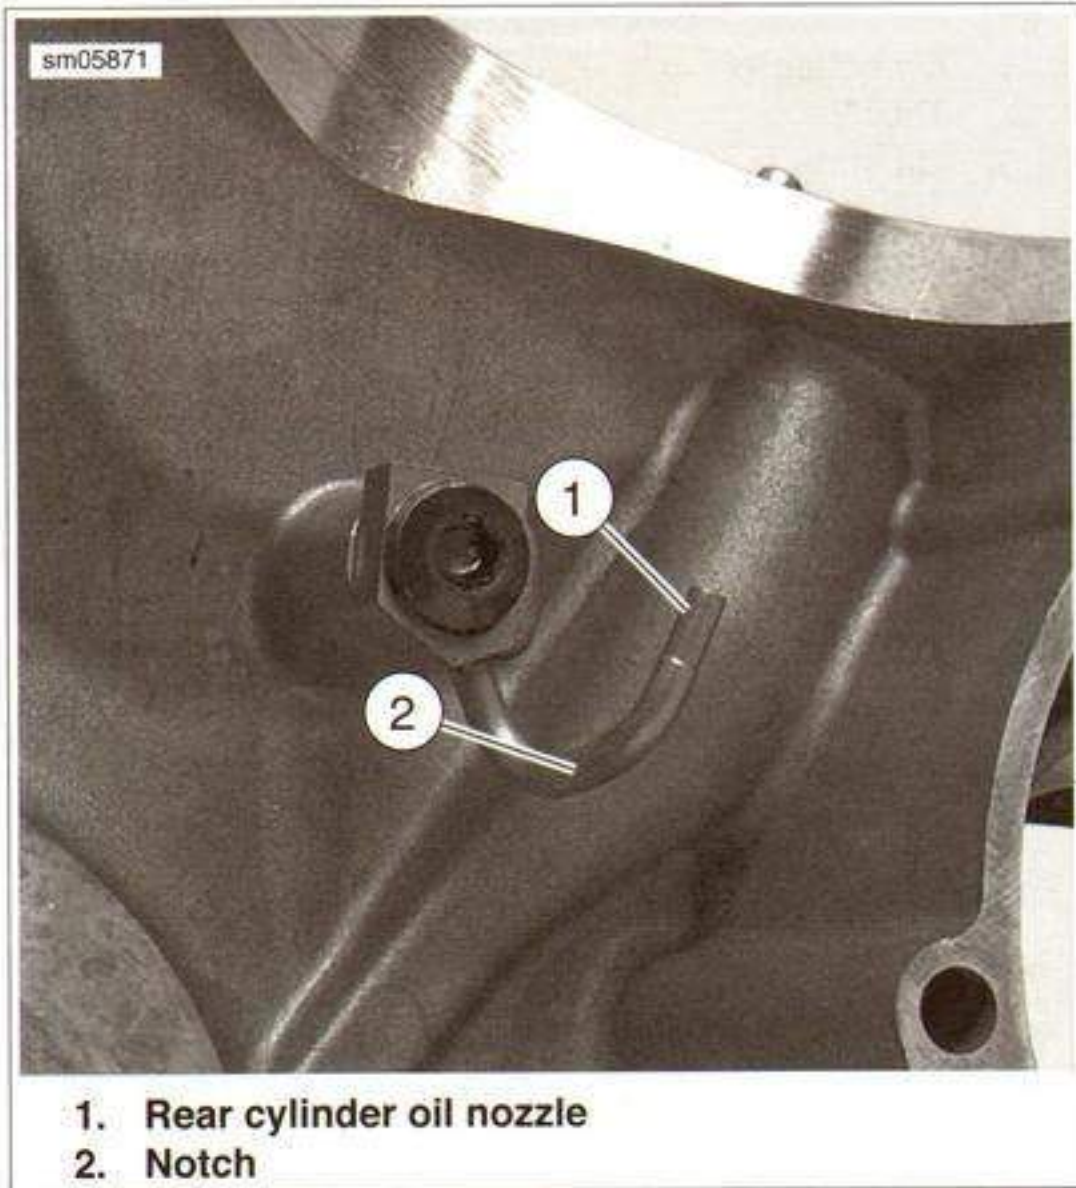

Figure 3-176. Rear Cylinder Oil Nozzle
- See Figure 3-176. The rear cylinder oil nozzle (1) has a line (groove) inscribed around it (2) for identification purposes.